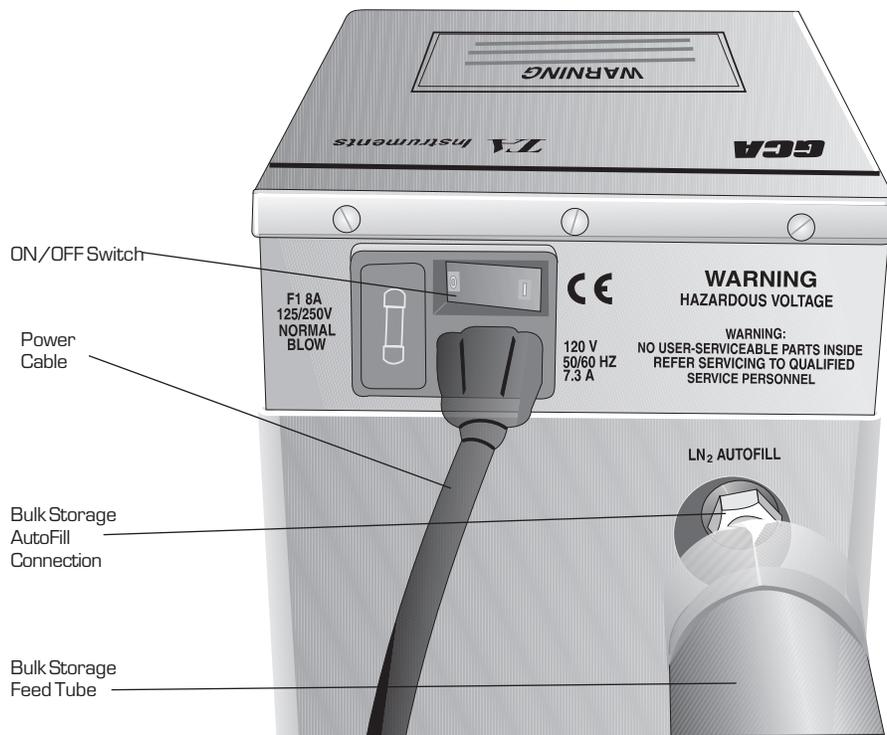

Figure 2.4
7. Attach the power cable to the back of the GCA (see Figure 2.4). Then plug the power cable into the 120 Vac power source.
8. Turn the power switch to the ON position (see Figure 2.4). When the ready light glows, the accessory is ready to be used.